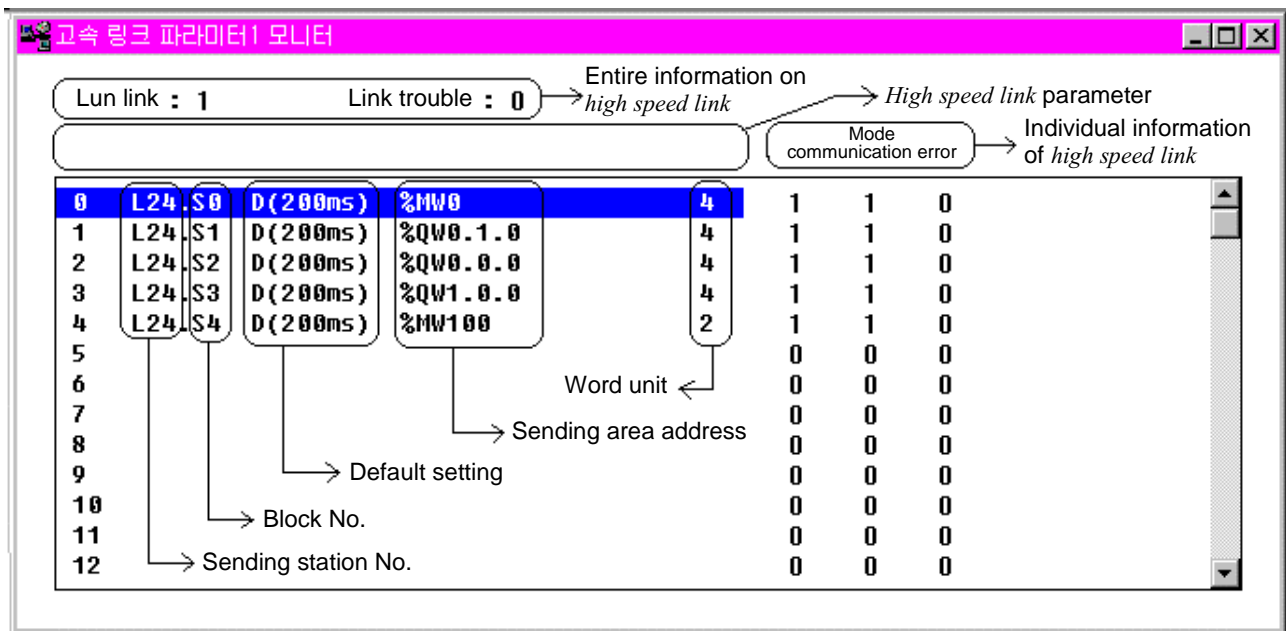

Fig. 6.2.7(E) Monitor screen of *high speed link* parameter(Example)
The values monitored in Fig. 6.2.7(E) mean the following :
- ① **RUN-LINK:1** : Indicates the integrated information that the current state(24 station) of self station is link enable 'On' and RUN state, and the communication of No.0,1,2,3,4 set by parameter has not any error and is in normal operation in accordance with the sending period. If even one of these conditions is not met, RUN-LINK becomes '0'.
- ② **LINK-TROUBLE:0** : Means that there is no link trouble in No.0,1,2,3,4 set by parameter. If there is error in even one place of No.0~4, or RUN-LINK is out of conditions of 'On', it becomes '1'.
- ③ **Mode 1**: Indicates that the station(24 stations) set by the appropriate parameter registration number is RUN mode. If mode is STOP/PAUSE/DEBUG, it becomes '0'.
- ④ **Communication 1** : Indicates that normal communication with the contents set by the appropriate parameter registration number is performed.
- ⑤ **Error 0** : Indicates that communication with the contents set by the appropriate parameter registration number has not any error.